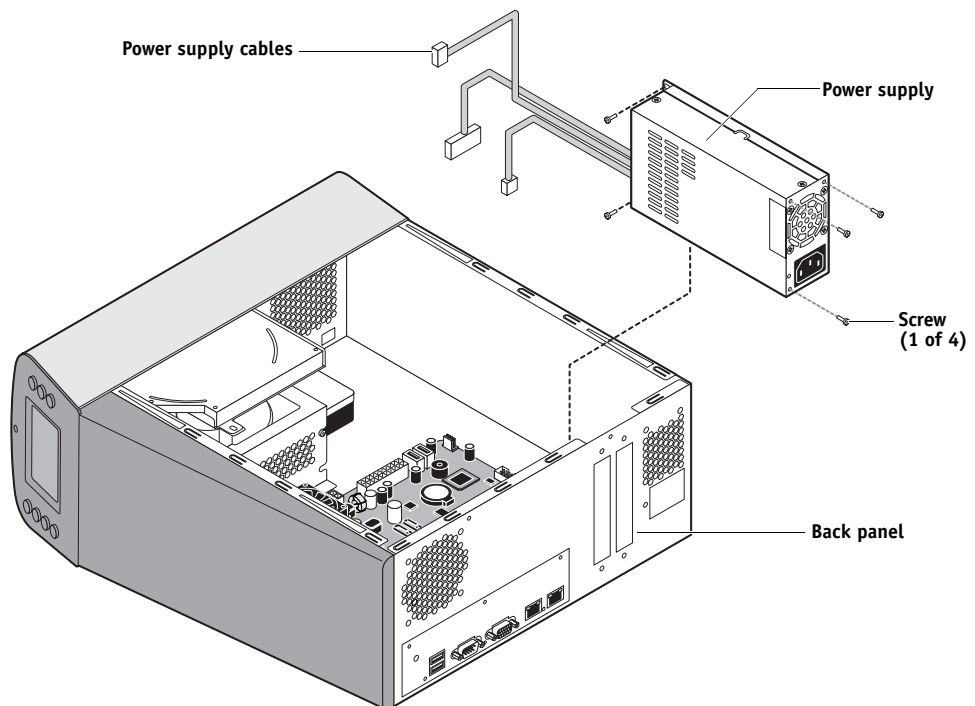

FIGURE 30: Removing/replacing the power supply
8. Remove the four screws that attach the power supply to the chassis (see Figure 30 on page 86).
2. Attach the power supply to the chassis with the four screws that you removed earlier (see Figure 30 on page 86).